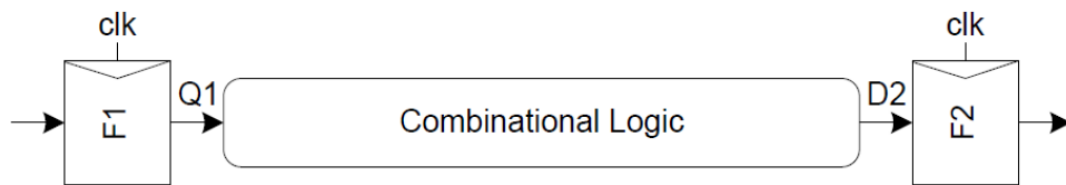

Fig. 2
2. Insert an inverter chain between 2 DFFs (shown in Fig.2) as a combinational logic to introduce a delay. (50%)